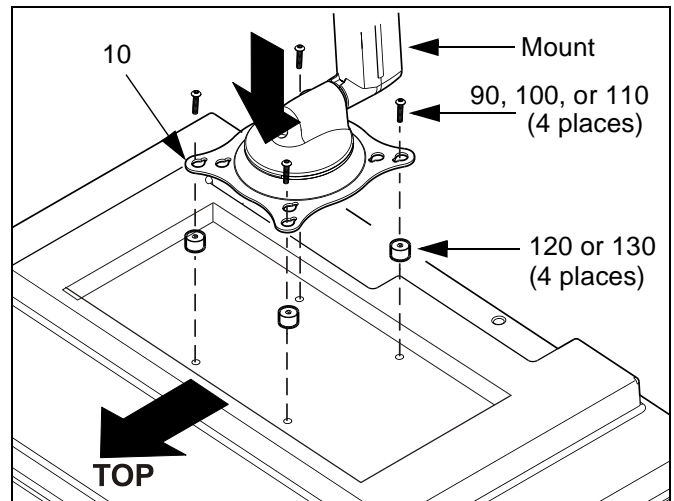

Figure 5: Single Display - Recessed Mount
- Pick up and orient the mount such that the mounting holes in the Centris bracket (10) are aligned with the holes in the spacers (120 or 130); rotate the bracket as required (See Figure 5).
- Using Phillips screwdriver, install four selected screws (100 or 110) through the mounting holes in Centris bracket (10), through the spacers (120 or 130), into the display (See Figure 5). Tighten all four screws. Do not overtighten!